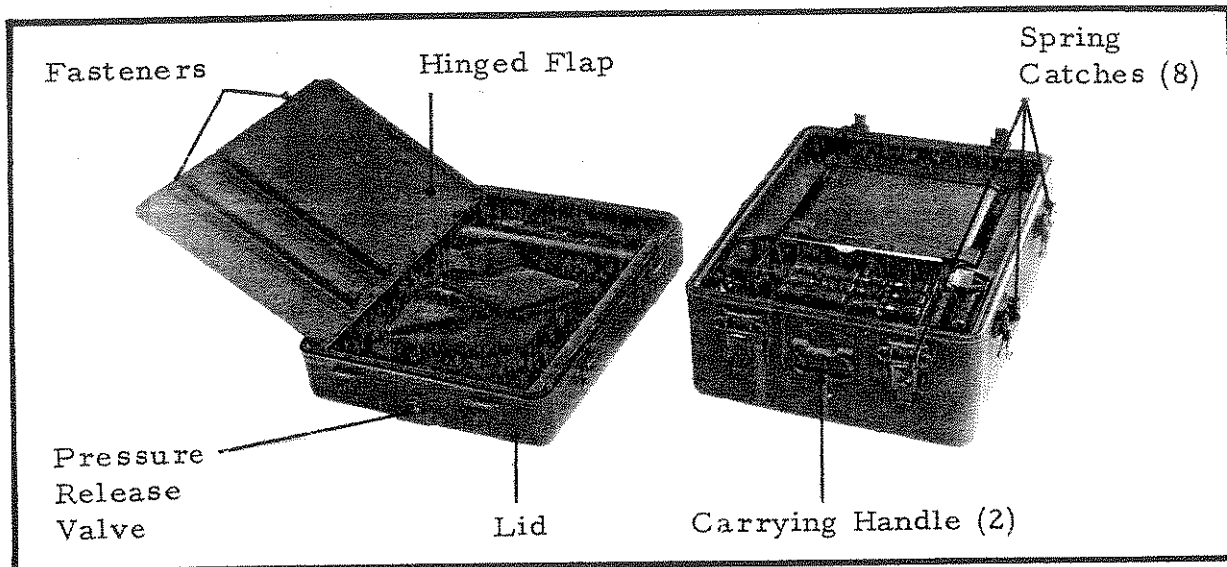

FIG 8
11. A metal transit case (see Fig 8) is provided for transporting the complete station. On receipt the case contains the appropriate items listed in Table 1 with the exception of the batteries which are separately demandable. For the correct Defence Stock Numbers of the items listed refer to Complete Equipment Schedules (CES) No 4090 and 4462 for the Radio Sets PRC-F1 and F3 respectively.
17. Case Assembly, Transit CY-F1. (Fig 8). This metal case has an airtight lid secured by eight spring catches and is fitted with two carrying handles. The case and the lid are partitioned to stow all components of the Radio Set, PRC-F1 (or F3). The two compartments in the lid are covered by a common hinged flap which is secured by two quarter turn fasteners. The flap bears a plate showing stowage details of the components.